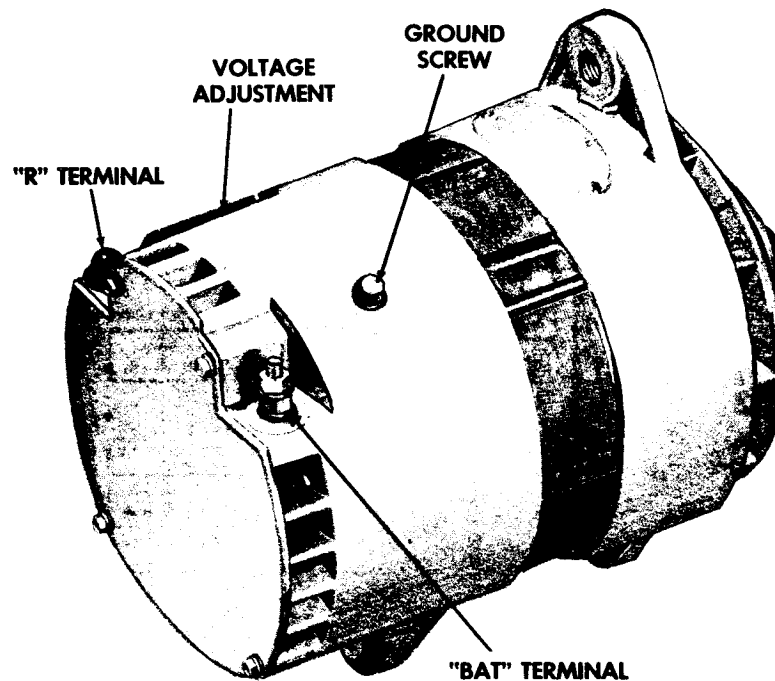
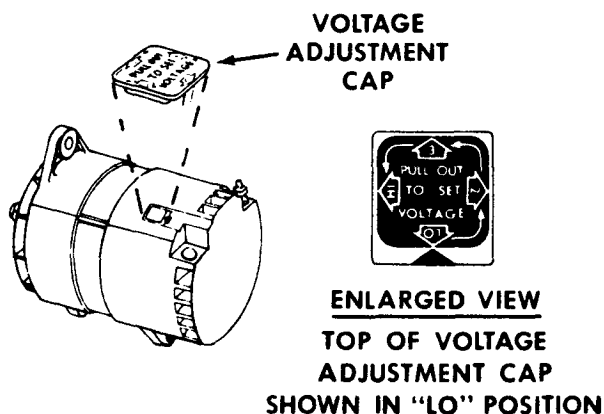

Figure 1—Typical integral charging system.
Figure 8—Voltage adjustment cap.
The Integral Charging System or generator, illustrated in Figures 1 and 2 features a solid state regulator that is mounted inside the slip ring end frame. The regulator voltage setting can be adjusted externally by repositioning a voltage adjustment cap in the slip ring end frame. This feature is covered in detail in Figure 8. Only one wire is needed to connect the Integral Charging System to the battery, along with an adequate
- f. If ampere output is within 10 percent of rated output as stamped on generator frame, Integral Charging System is not defective. In this case, an adjustment of the voltage setting may correct the undercharged condition. Raise the setting by removing the voltage adjusting cap, rotating in increments of 90°, and then re-inserting the cap in the connector body. As illustrated in Figure 8, the cap is set for low voltage. With position 2 aligned with the arrow, the setting is increased to medium low, position 3 is medium high, and position "HI" is the highest regulator setting. After adjusting the setting, check for an improved battery condition after a service period of reasonable length, such as one week. **IMPORTANT:** The volt-
age adjustment in Figure 8 is for purposes of illustration only. The actual adjustment as shipped from the factory may be in some other position such as position 3, depending on the application requirement. If readjusting the setting does not correct the undercharged condition, proceed to "Integral Charging System Repair."
5. If voltage does not exceed the values listed in Step 4 preceding, adjust voltage to a lower value by removing voltage adjusting cap and re-inserting into connector body. Then check battery condition after a service period of reasonable length, such as one week. Figure 8 is for purposes of illustration only, and shows the cap adjusted for the lowest setting. The actual adjustment as shipped from the factory may be in some other position, such as position 3, depending on the application requirement. The lowest setting is with "LO" aligned with the arrow, position 2 is medium low, position 3 is medium high, and "HI" is the highest setting.